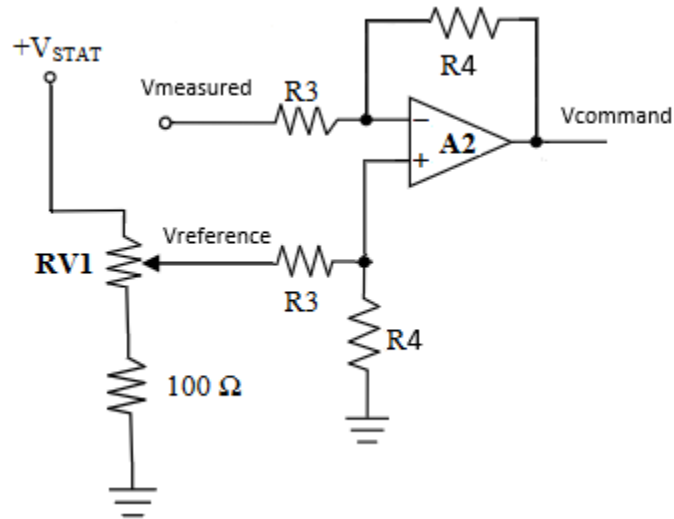

Figure 3- Circuit Implementing Proportional Control Rule
In this model, there will be several controllers, each employing a different control rule, present in this document on Figure 3 and Figure 6.
The implementation of proportional control can be obtained by the circuit in Figure 3.
6.1- Study the behaviour of the circuit in Figure 3.